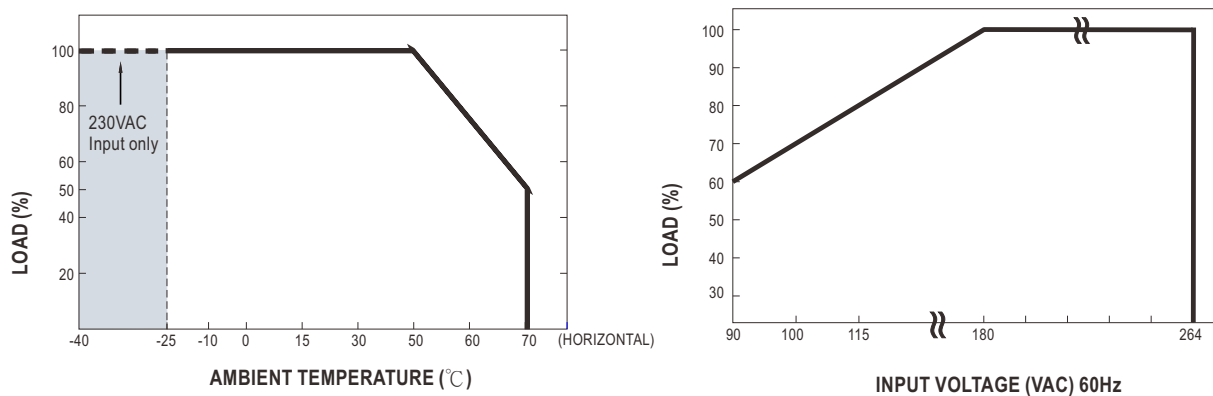

Figure 5-2 Output de-rating curves
- ⦿ When RCP-1600/RCB-1600 units are operating at a lower AC input voltage, these units will de-rate their output current automatically to protect themselves, shown as Figure 5-2.